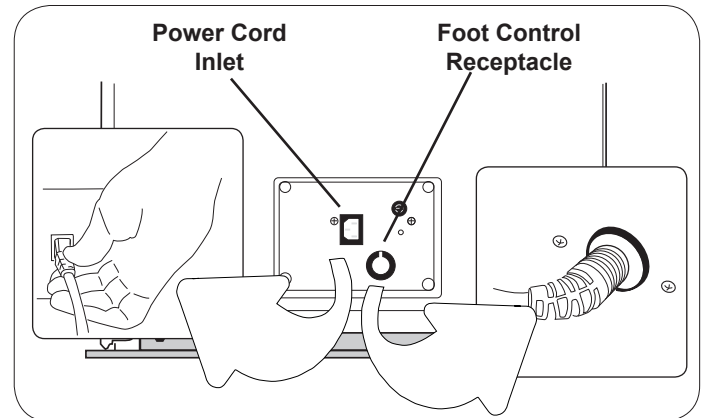

Figure 5. Power Cord and Foot Control Plug-ins
7. Insert the foot control cord into the receptacle at the bottom of the rear panel (Figure 5). Make sure the tab on the plug is aligned with the slot in the receptacle.
9. Plug the power cord into the receptacle at the bottom of the rear panel (Figure 5). Plug the power cord into a 230 Volt grounded receptacle.